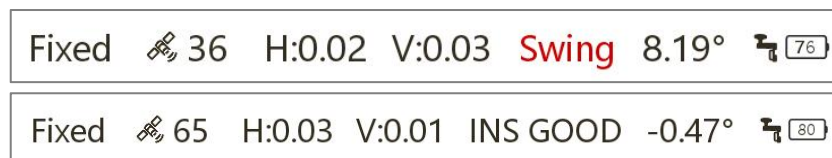

Figure 3-13
- (4) Calibrate the tilt measurement function (inertial navigation module). Hold the EX30 with the mushroom-type GNSS antenna facing the sky, and move the device smoothly within a range of 3 meters (the worse the environmental conditions, the farther you need to walk). When the status displayed at the top of the XFIX app changes from 'Fixed, Swing' to 'Fixed, INS GOOD', as shown in Figure 3-13, it indicates that the EX30 device is ready for normal use in the current environment.